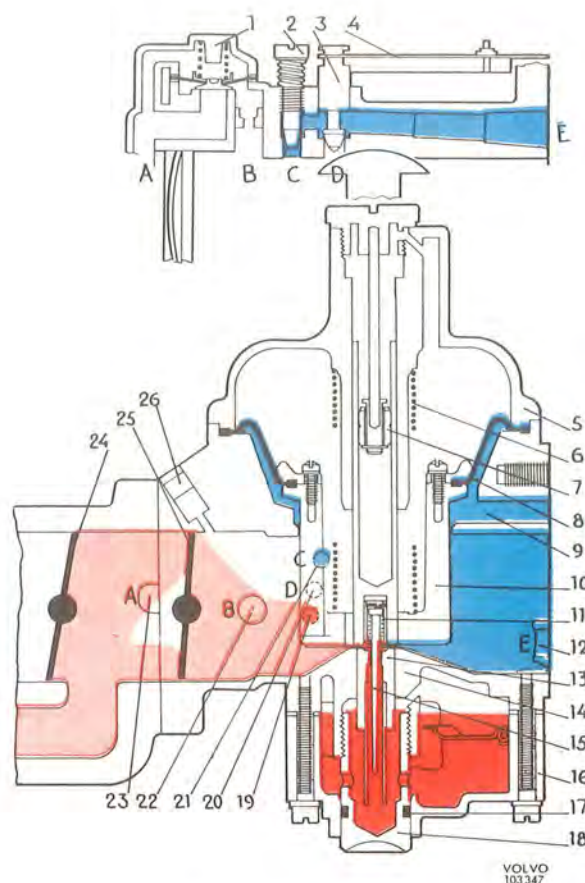
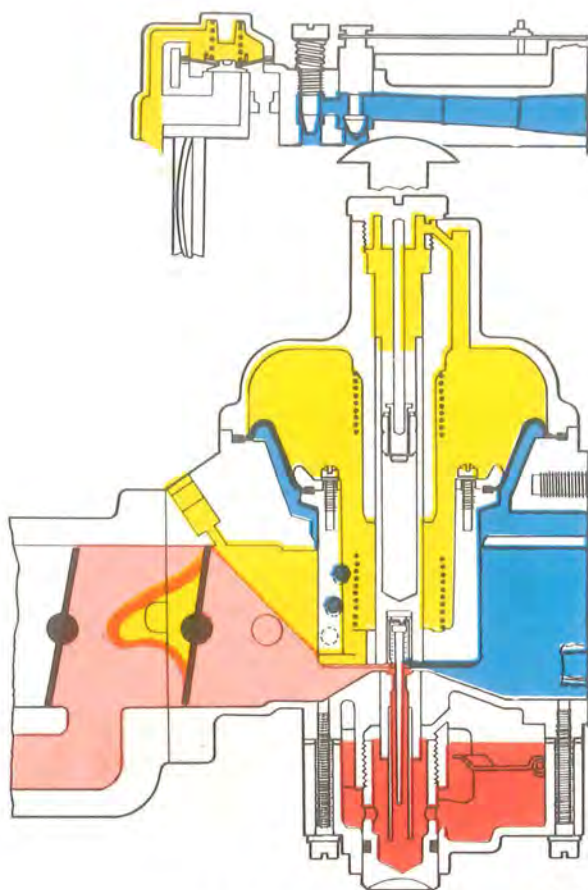
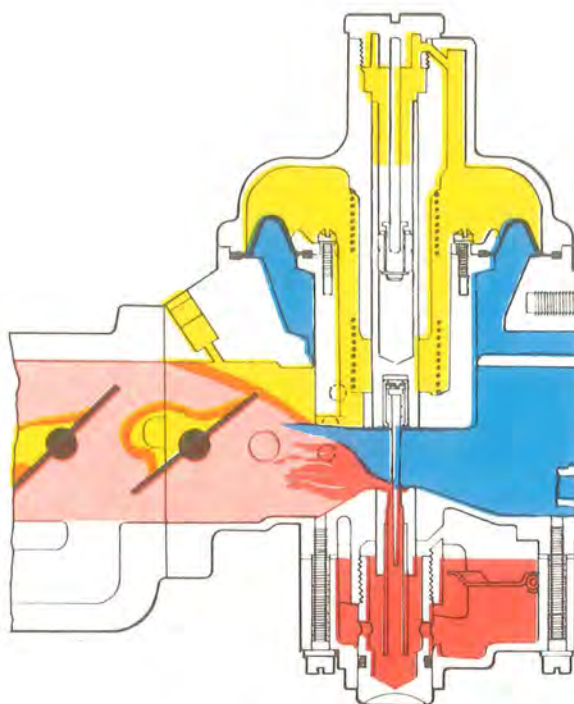

Fig. 2-54. Cold starting, principle
Fig. 2-55. Idling, warm engine
Fig. 2-56. Normal running
When the engine is idling, the vacuum in the carburettor suction chamber is low and the column between the vacuum plunger and the bridge will be small (see Fig. 2-55). At this stage, the thicker section of the metering needle is in the jet and thus only a small quantity of fuel, corresponding to idling requirements, is sucked into the engine. The temperature compensator (Fig. 2-54) is regulated by a bi-metal spring (4) which influences a valve (3). When the engine is warm and the temperature in the carburettor rises, the valve opens and air is obtained in the carburettor venturi to compensate for the increase in the fuel flow, which is obtained due to the alteration in the fuel's viscosity, see Fig. 2-55. Fine adjustment of the engine idling speed can be carried out with the idle trimming screw (2, Fig. 2-54).
diaphragm. The pressure difference between the underside of the air valve, where there is pressure in the carburettor inlet port, and the upper side of the valve, where there is vacuum, causes the valve to lift from the bridge. This also lifts the tapered metering needle (15, Fig. 2-54), which is attached to the plunger, out of the jet. The effective choke area and thus also the fuel flow increases. See Fig. 2-56.
in oil. When the throttle is suddenly opened, the vacuum in the suction chamber increases rapidly. When the air valve (10, Fig. 2-54) lifts, the damper plunger (7) is forced against its seat and oil is prevented from flowing past from the upper side the lower side of the damper plunger, this retarding the movement of the valve (10). This temporarily results in a more powerful vacuum above the jet so that the fuel-air mixture becomes for the moment richer.